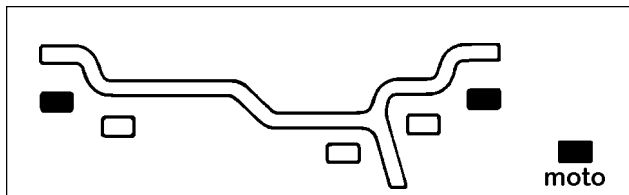

Fig. 53
**G. ALU6.** The wheel weights position is as indicated in Fig.53. In this case use one hidden tape weight on the inside and a clip-on weight on the outer edge.